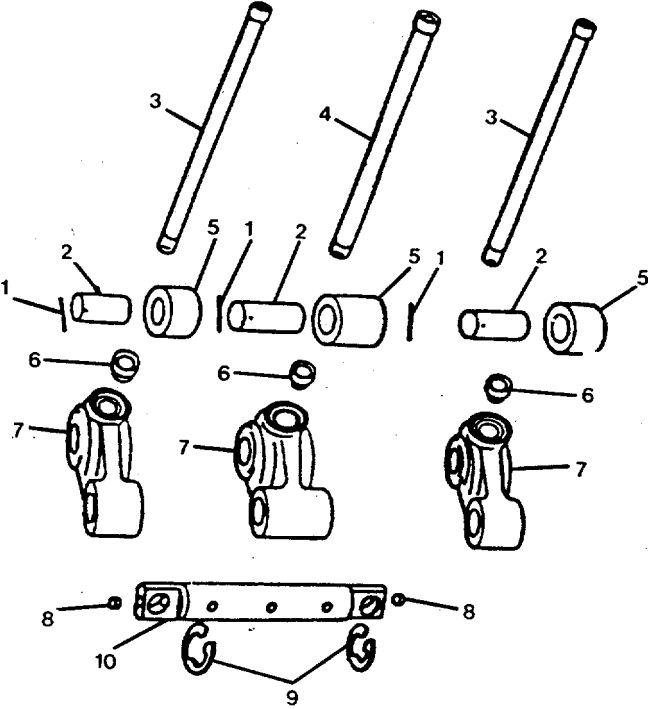
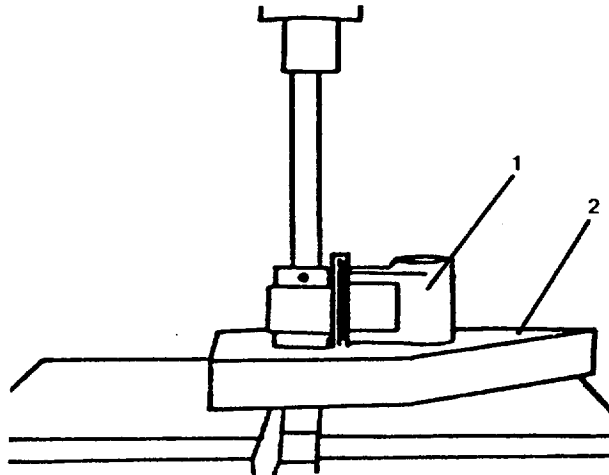
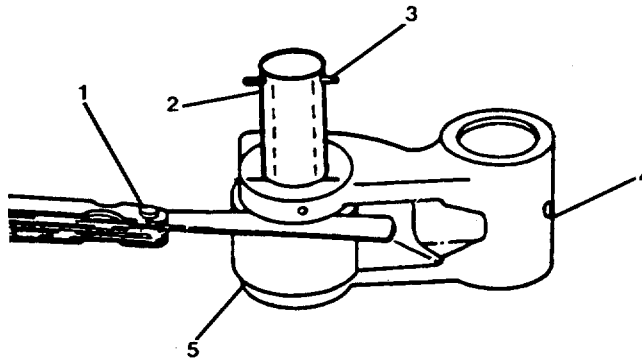

FIGURE 4-39. Cam Followers. Cover and Push Rods/Tube.
FIGURE 4-40. Cam Roller Pin Removal Socket.
FIGURE 4-42. Cam Roller Pin Installation.
- a. Remove push rods (3 and 4, FIG. 4-39) after removing rocker levers (para. 2-30). Lift push rods straight up to remove.
- e. Clean the cam follower assembly (3) and capscrews (1) with solvent. Check the assembly for obvious damage. Verify the shaft (10, FIG. 4-39) rotates easily.
- a. Remove retaining rings (9, FIG. 4-39) that hold the cam followers (7) on the shaft (10).
- b. Remove cam followers (7) and cup plugs (8) from the shaft (10). Clean the parts in solvent.
- c. Remove roll pins (1, FIG. 4-39) and position cam follower assembly (1, FIG. 4-40) on roller pin block (2). Press out the cam roller pin (2, FIG. 4-39). Remove rollers (5) from cam followers (7).
- a. Measure the outside diameter of the shaft (10, FIG. 4-39). If it is not between 0.8730 inch (22.174 mm) and 0.8740 inch (22.200 mm) or is scored or pitted, replace.
- b. Check the inside diameter of the cam follower (7) for scratches, pitting, or scoring. Measure with an inside micrometer. If it is not between 0.8750 inch (22.225 mm) and 0.887 inch (22.276 mm), replace.
- c. Use compressed air. Ensure cam follower (7) oil holes are not blocked.
- d. Check socket (6) for damage. If the socket must be replaced, perform the following:
- f. Check the cam roller (5, FIG. 4-39) width, outside diameter and bore inside diameter. Verify they are within the following specifications.
- g. Roll pushrods (3 and 4, FIG. 4-39) across a level surface to check for straightness. Check both ends of rod for scratches and abrasions. Replace as required.
- a. Use a suitable arbor press and a roller pin block to assemble the rollers 2 (5, FIG. 4-39) and pin (2) as follows:
- (1) Position the roller (5), pin (2), and cam follower (7) in the press.
- (2) Align the oil passage and roll pin holes in the cam follower (7) and roller (5).
- (3) Select the proper thickness feeler gauges (1, FIG. 4-42). Place the gauge (1) between the roller (5) and cam follower (4) for support while pressing the pin (2) into the lever.
- b. Assemble the cam followers (7, FIG. 4-39) onto the shaft (10). Secure the assembly with retainer rings (9).